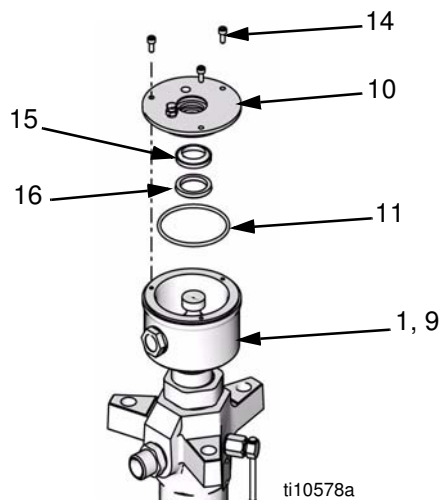

FIG. 31
26. Install new o-ring (11), wet cup wiper (15), and seal (16) into wet cup cover (10). See FIG. 31.
27. Carefully slide wet cup cover (10) over displacement rod. Line up holes in cover and wet cup. Insert screws (14). Use a hex head screwdriver to tighten screws. See FIG. 31.